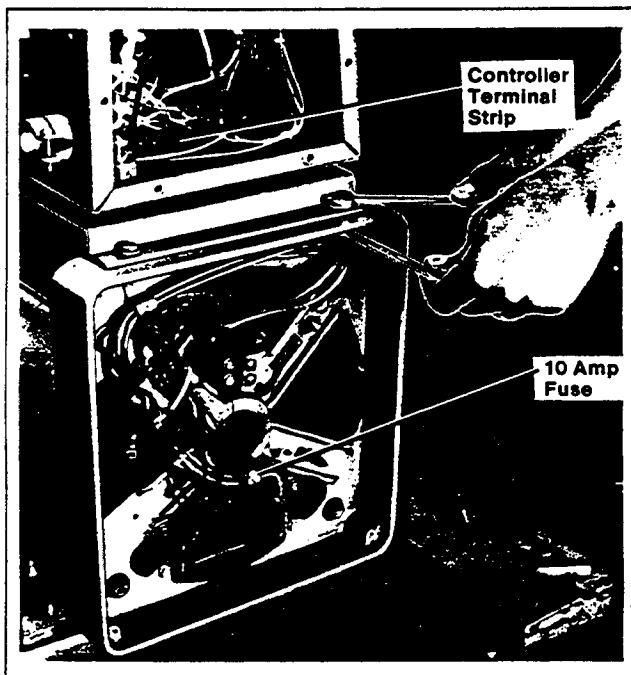

Figure 5-1. Controller Removal
3. Remove controller mounting bolts from generator set. Figure 5-1. Pull leads through the opening in controller box when removing from generator.